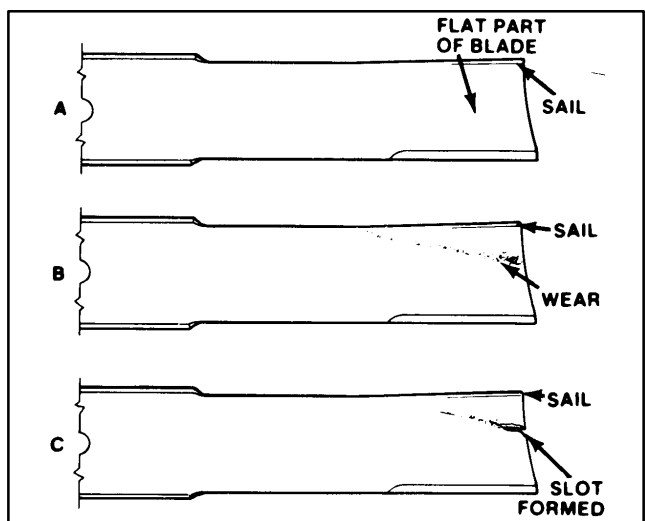

Figure 78
(Fig. 78)
2. Examine cutting ends of the blade carefully, especially where the flat and curved parts of the blade meet (Fig. 78–A). Since sand and abrasive material can wear away the metal that connects the flat and curved parts of the blade, check the blade before using the machine. If wear is noticed (Fig. 78–B), replace the blade: refer to Blade Removal and Installation, page 40.